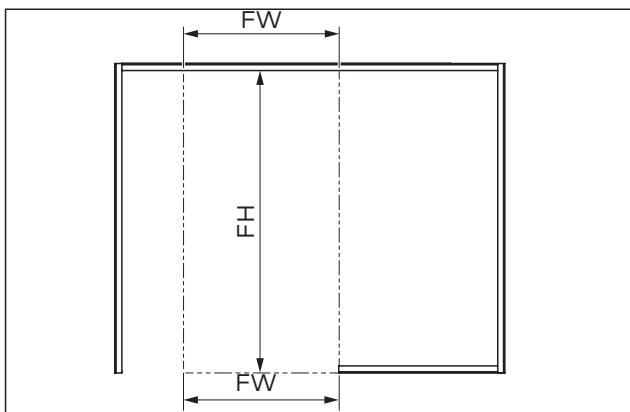

Fig. 19 Example of dimensions for installing the door frame at the assembly location
2. Match the dimensions for the door frame's installation from the project-related unit drawing with the assembly location (Fig. 19).